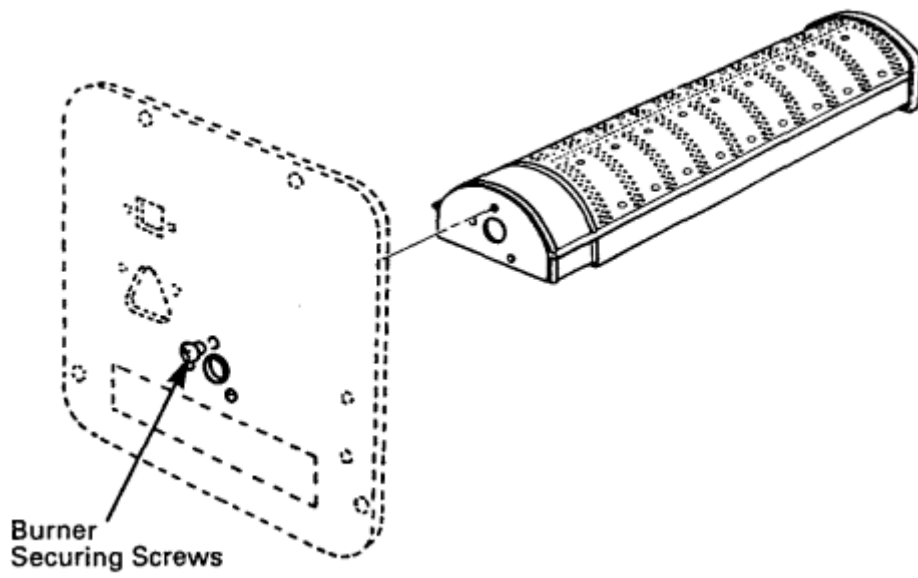

fig 11 - Door/Burner (60/50/40)
- b) Disconnect the burner by removing the 3 securing screws (Fig 11).
14) Clean the pilot as follows: Unscrew the pilot tubing nuts at both ends and remove the pilot tube. Remove and clean the pilot injector and clean the pilot shroud (Fig 11).
- 3) Remove the 3 screws securing the burner to the door panel and remove the burner (Fig 11).